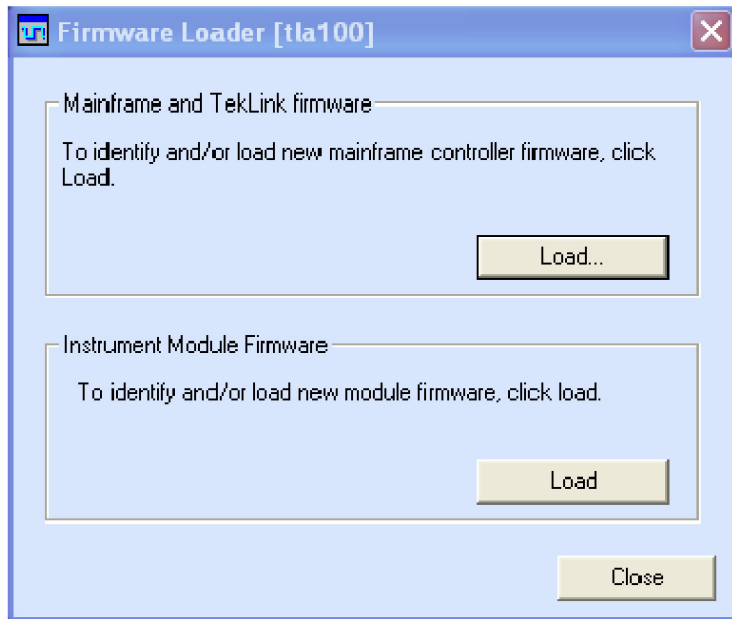

Figure 39: Firmware Loader dialog box
6. When the network search is complete, click on the IP address of the TLA7016 listed in the Connection window and click Connect. The Firmware Loader dialog box appears. (See Figure 39 on page 40.)